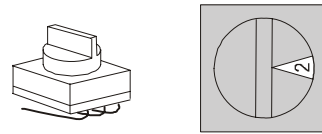
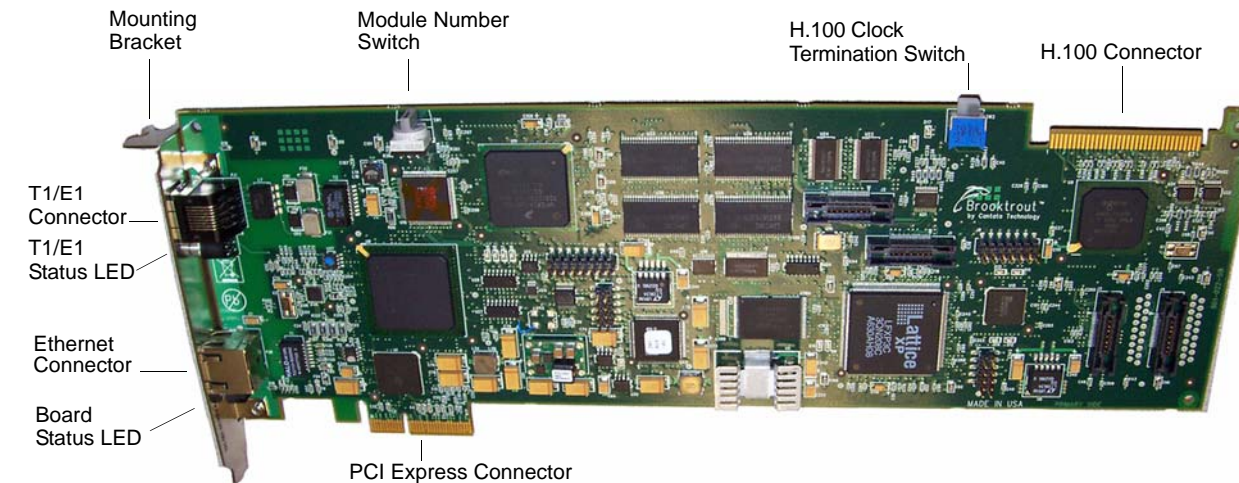
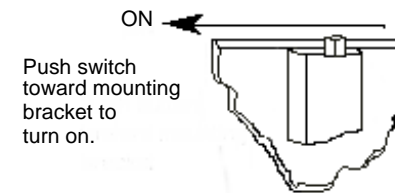

Figure 1 Rotary Switch
Figure 4 Dialo^{gic}[®] Brooktrout[®] TR1034 T1/E1/IP/Ethernet PCI Express Fax Board
Figure 3 H.100 Clock Termination Switch
You must set each TR1034 Fax Board to a unique module number to identify the resources associated with a specific board in a multi-board system. Use the rotary switch (Figure 1) to set the module number for each TR1034 Fax Board (see location in Figure 4). The available settings are 2 - F (0 and 1 are reserved).
On a single TR1034 or on multiple TR1034 Fax Boards installed in the same chassis, leave the H.100 clock termination switch (Figure 4) in the OFF position. Multiple TR1034 Fax Boards in the same system do not require the use of a connecting H.100 cable.
An H.100 termination switch (see Figure 3) controls termination for the H.100 clock signals. Set the switch to ON to terminate the H.100 clock on a TR1034 Fax Board (see Figure 4 for the location of the switch on the board).
5. Screw the board’s mounting bracket securely to the computer’s frame. See Figure 4.
The board status LED (see Figure 4) continuously flashes yellow when you turn the computer on.